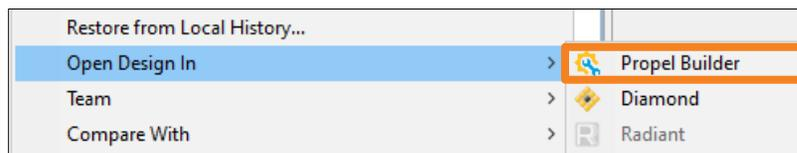

Figure 3.9. Project Explorer Popup Menu
- Right-click the SoC project from **Project Explorer**. Choose **Open Design In** >  **Propel Builder** from the popup menu (Figure 3.9).